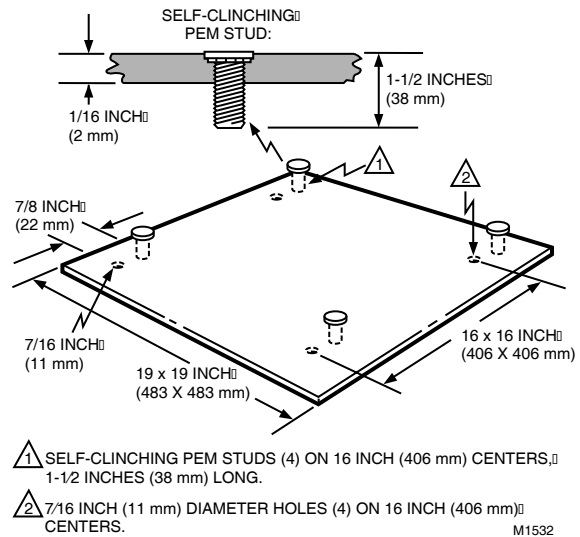

Fig. 10. Mounting F90 using 272577A Transition Plate.
- Mounted into a ceiling joist or suspended ceiling using a transition plate accessory. See Figs. 10 and 11.
The transition plate (Fig. 10) allows the F90 to be mounted by one person. In the two-step process, the mounting plate is first secured directly to the ceiling joists. Then the F90 is mounted to the transition plate.